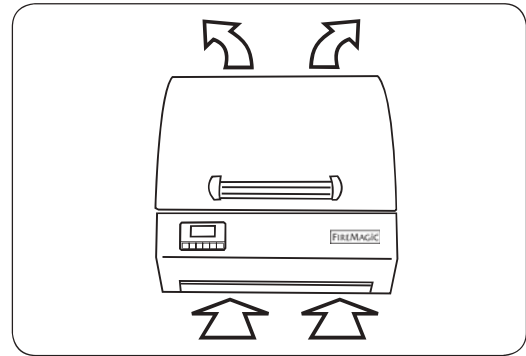
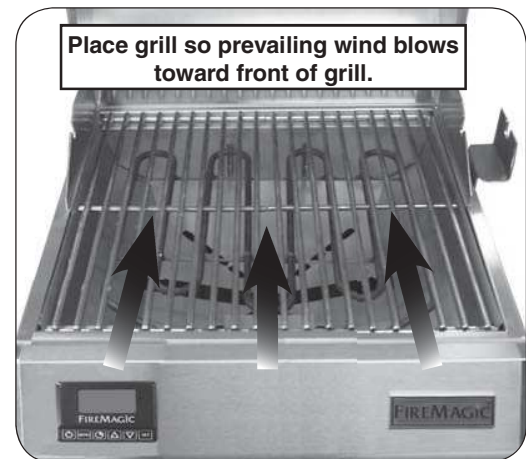
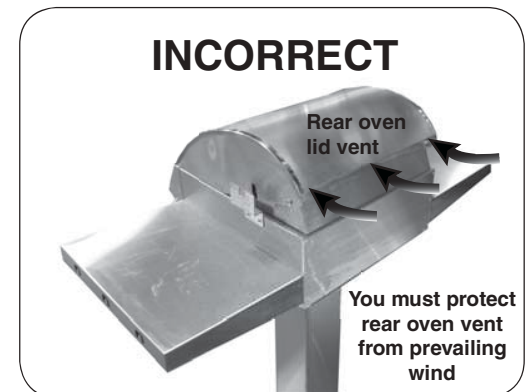

Fig. 8-1 Ventilation
Fig. 8-2 Prevailing wind - CORRECT
Fig. 8-3 Prevailing wind - INCORRECT
Proper airflow (Fig. 8-1 and Fig. 8-2) **MUST** be maintained for the grill to perform as it was designed. If airflow is blocked, overheating will result. Do not block the 1" (2.5 cm) front air inlet along the bottom of the control panel or more than 75% of the cooking grid surface with pans or griddles.
**CAUTION:** DO NOT operate the grill with air blowing into or across the rear oven lid vent (Fig. 8-3). This can cause poor performance and/or dangerous overheating. Orient the grill so that any prevailing wind blows against the front of the grill (Fig. 8-1 and Fig. 8-2).